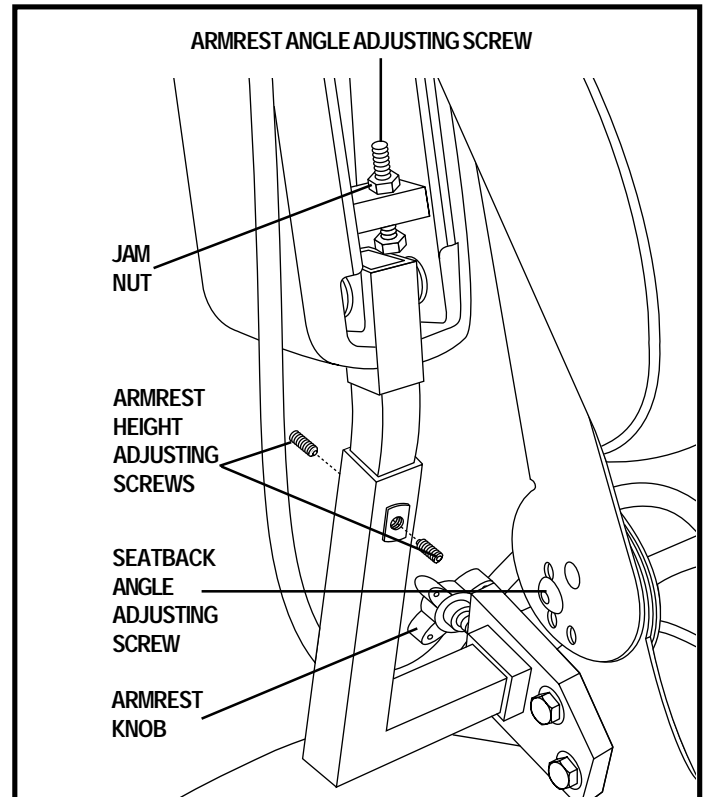

Figure 16. Seatback Angle Adjustment
1. Remove the adjusting screws from each seat hinge. See figure 16.
1. Locate the two armrest knobs on each side of the armrest receiver bracket. See figure 16.
1. Loosen the two setscrews located on the armrest receiver. See figure 16.
1. Lift the armrest straight up so that it is perpendicular to the floor. See figure 16.